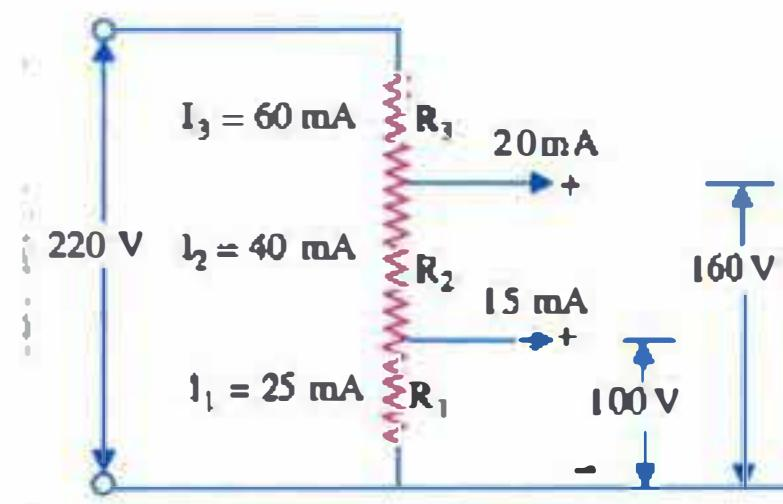

Fig. 2.34
**Solution.** The divider circuit is shown in Fig. 2.34.